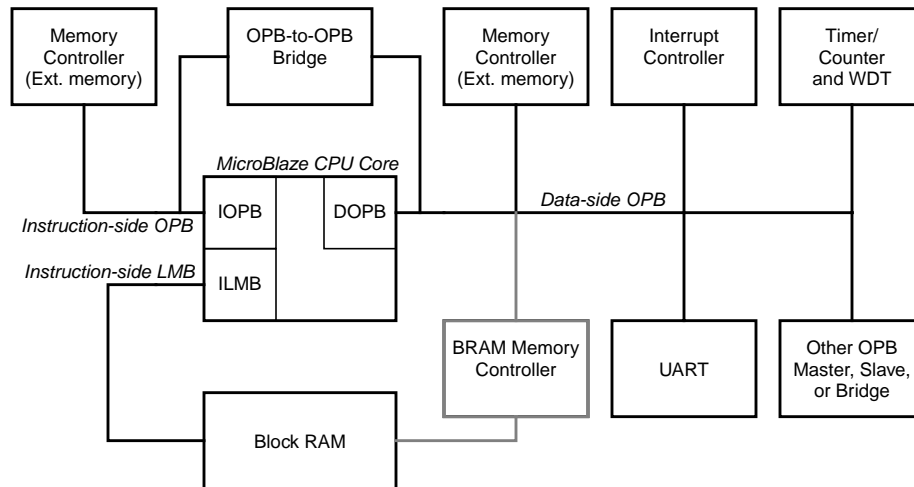
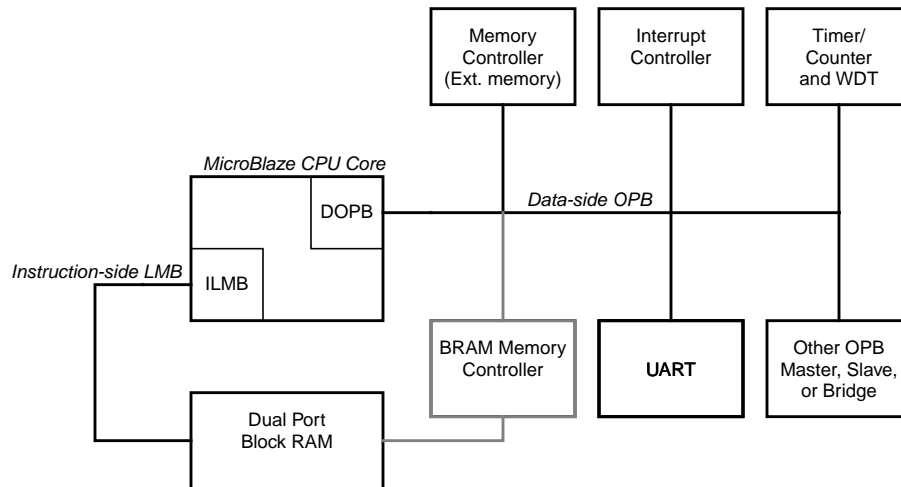
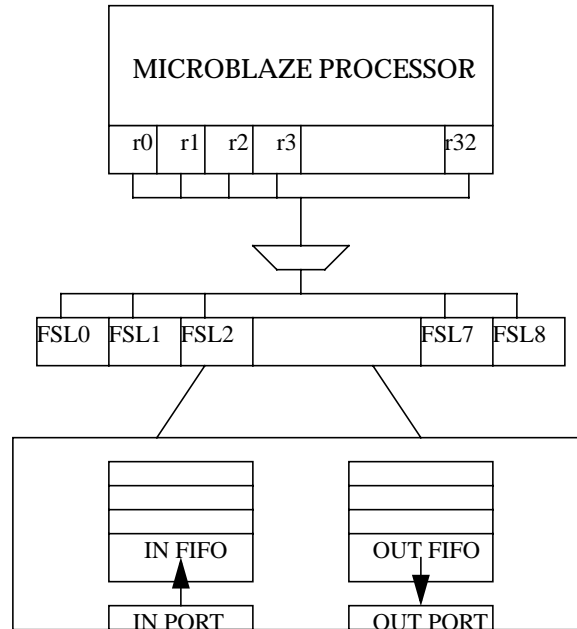

Figure 2-6: Configuration 4: IOPB+ILMB+DOPB
Figure 2-8: Configuration 6: ILMB+DOPB
Figure 2-9: FSL Configuration + MicroBlaze
**Note:** ILMB memory can be debugged via a software resident monitor if the second port of the dual-ported ILMB BRAM is connected to an OPB BRAM memory controller. See Figure 2-6 and Figure 2-8. Also, all the above 6 configurations can be used with a special FSL configuration. See Figure 2-9.